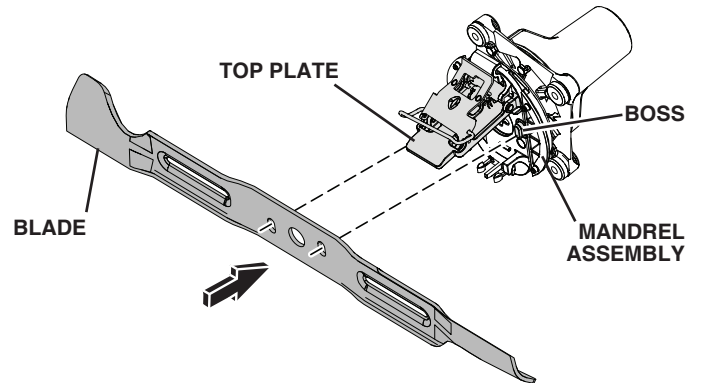

Fig. 32
- Align bosses and insert blade. (See Fig. 32.)